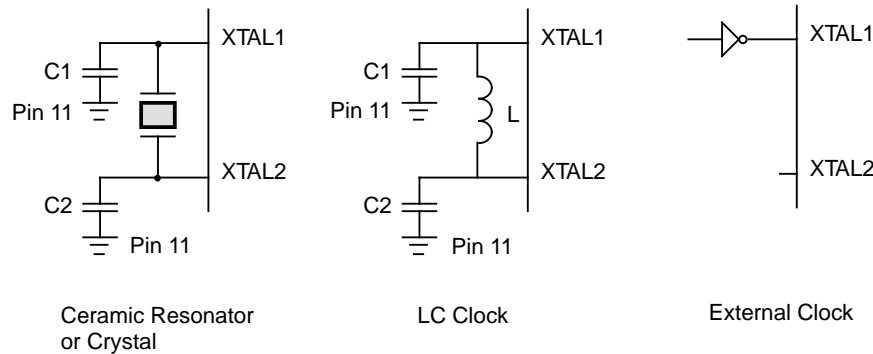

Figure 17. Oscillator Configuration
(RS) is less than or equal to 100 Ohms. The crystal should be connected across XTAL1 and XTAL2 using the recommended capacitors (10 pF < CL < 100 pF) from each pin to ground (Figure 17). **Note:** Actual capacitor value specified by crystal manufacturer.